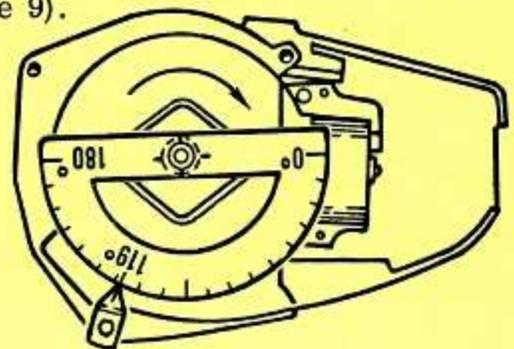

FIGURE 9
6. Turn the crankshaft and the degree wheel clockwise until the indicator reads 26 degrees before top dead center (119 degrees in the example) and the point at which the breaker points should open (Figure 9).